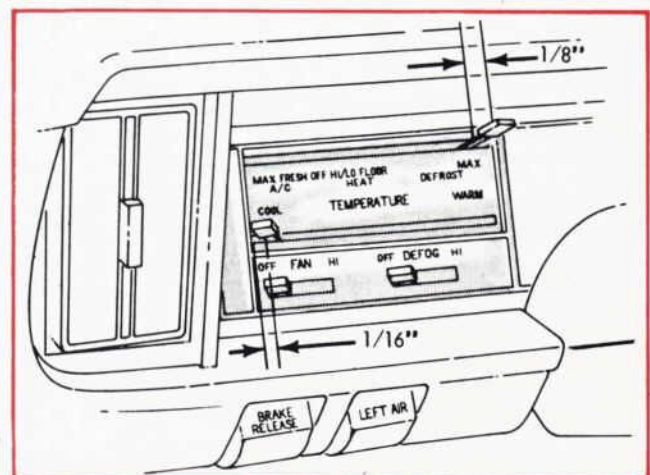

Figure 2—Instrument Panel Controls
4. Hold temperature control lever in "Cool" position and adjust temperature cable turnbuckle until lever bottoms against housing casting. Continue holding lever in "Cool" position and readjust turnbuckle until slight pressure is felt against finger. Approximate gap between casting and side of lever should be $\frac{1}{16}$ inch (figure 2).